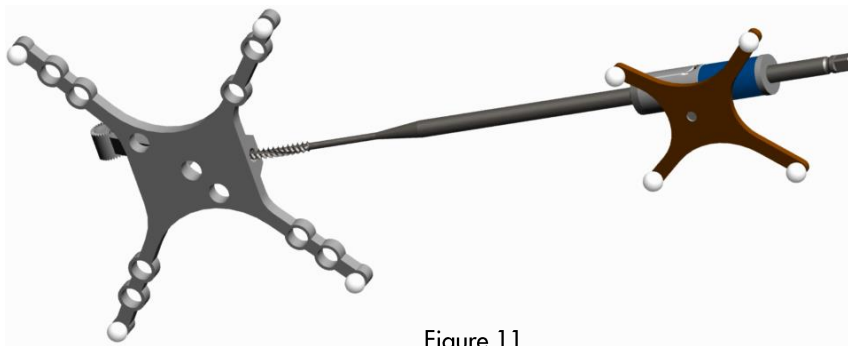

Figure 11
- Hold the instrument as perpendicular to the reference frame as possible and insert the distal tip of each instrument/tracker assembly, one at a time, into the divot (Figure 11).